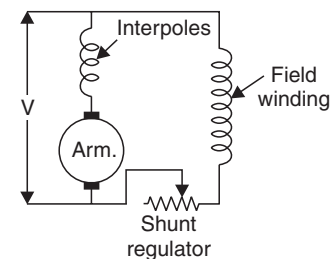
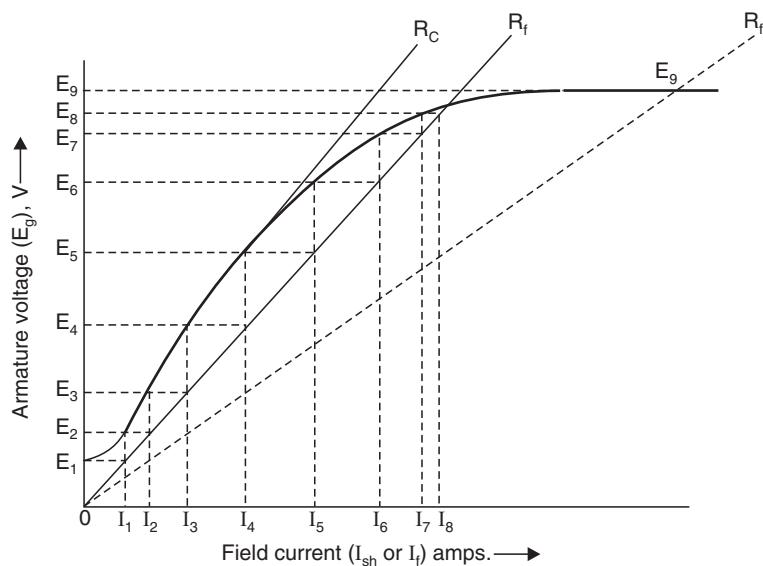

Fig. 32. Self-excited shunt generator.
Fig. 33. Building up the voltage of a shunt generator.
One of the simplest forms of 'self-excited' generator is the shunt-wound machine, the connection diagram (without load) of which is shown in Fig. 32. The manner in which a self-excited generator manages to excite its own field and build a D.C. voltage across its armature is described with reference to Fig. 33 in the following steps :
- When I_1 flows in the field circuit of the generator of Fig. 32, an increase in m.m.f. results (due to $I_f T_f$, T_f being field turns which aids the residual magnetism in increasing the induced voltage to E_2 as shown in Fig. 33.
- (vii) The process continues until that point where the field resistance line crosses the magnetisation curve in Fig. 33. Here, the process stops. The induced voltage produced, when impressed across the field circuit, produces a current flow that in turn produces an induced voltage of the same magnitude, E_8 , as shown in the figure.
- In the above description a particular value of field resistance R_f was used for building up of self-excited shunt generator. If the field resistance were reduced by means of adjusting the field rheostat of Fig. 32 to a lower value say R_{f1} , shown in Fig. 33, the build-up process would take place along field resistance line R_{f1} , and build-up a somewhat higher value than E_8 , i.e., the point where R_{f1} intersects the magnetisation curve, E_9 . Since the curve is extremely saturated in the vicinity of E_9 , reducing the field resistance (to its limiting field winding resistance) will not increase the voltage appreciably. Conversely, increasing the field rheostat resistance and the field circuit resistance (to a value having a higher slope than R_f in the figure) will cause a reduction of the maximum value to which build-up can possibly occur.
This critical field circuit resistance, R_c , is shown as tangent to the saturation curve passing through the origin, O , of the axes of the curve of Fig. 33. Thus, a field circuit resistance higher than R_c will produce an armature voltage of E_1 approximately (and no more).